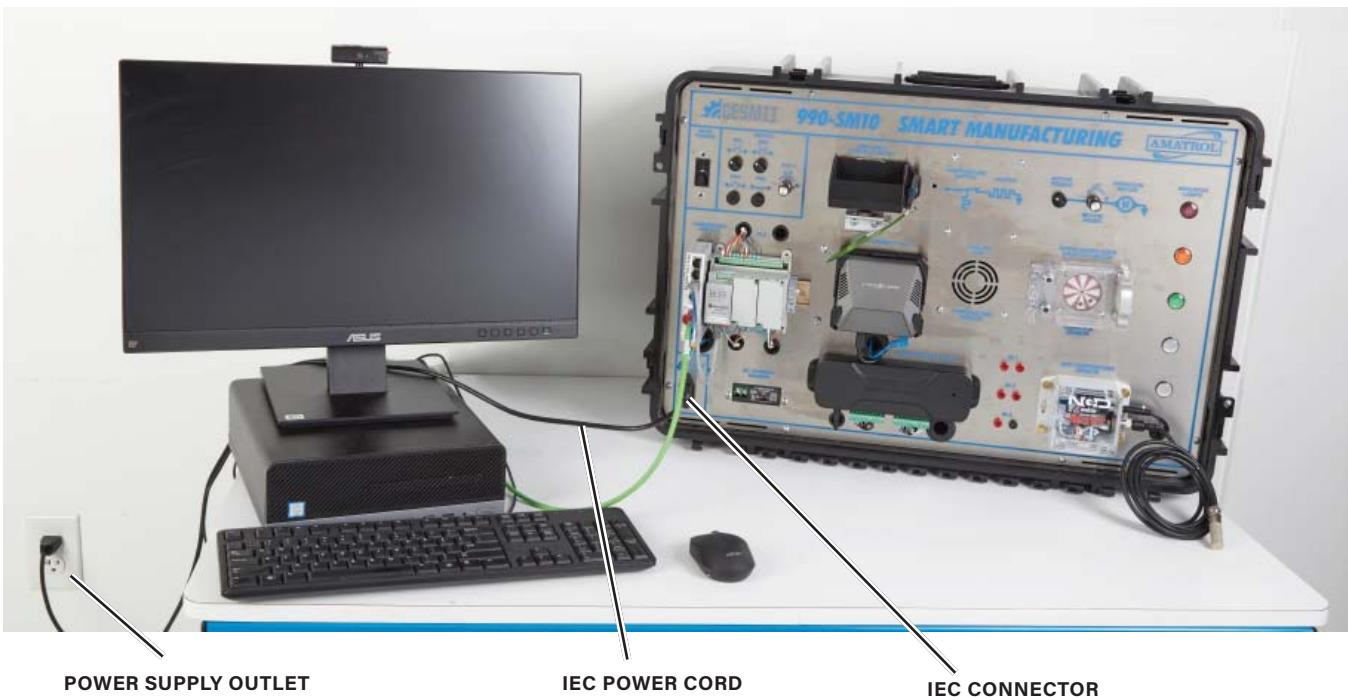

Figure 3-2. IEC Power Cord Plugged into AC In Port and Power Supply Outlet
- Connect the IEC power cord to the AC in port on the workstation and an AC wall outlet, as shown in figure 3-2.